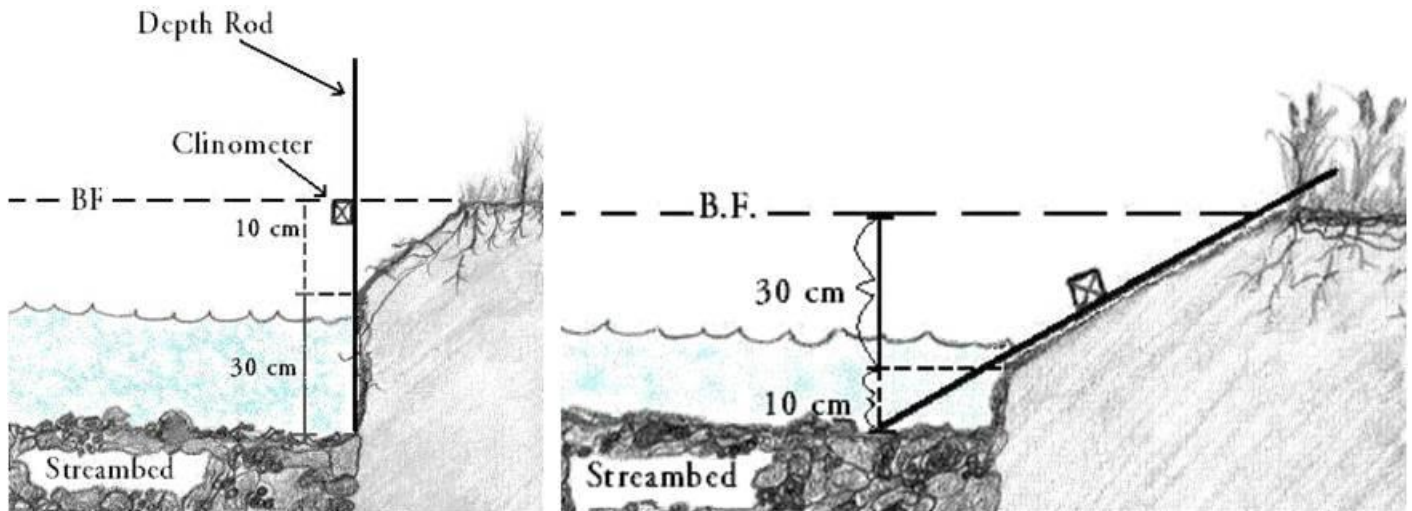

Figure 33: Measure the tallest angle when the bank has two dominant angles.
- Measure the angle of the lower portion of the bank if it is taller than the upper portion (Figure 33). Similarly, measure the angle of the upper portion of the bank if it is taller (Figure 33).